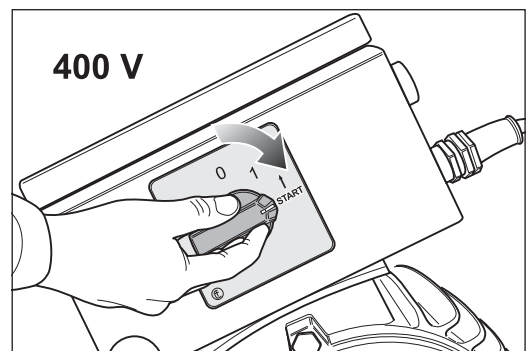
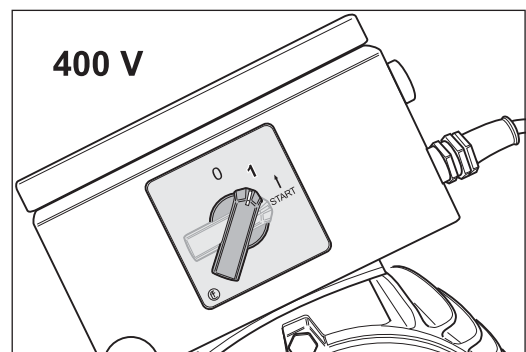

Fig. 24 To switch on the machine turn the switch button at the motor to position **-START-**.
Fig. 25 Release the switch button. The button turns automatically in position **-1-**.
- To switch on the machine turn the switch button at the motor to position **-START-** (Fig. 24) and release the switch button after the motor has reached its full speed. The switch button will then automatically move to position **-1-** (Fig. 25).